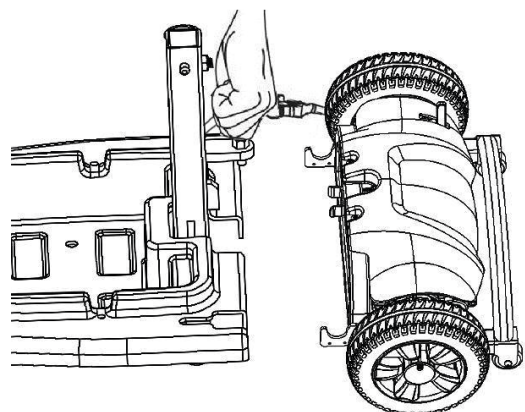

Fig 6.3
5. Pull the connecting device upward and the front section will be apart from the rear section. (See Fig. 6.3)